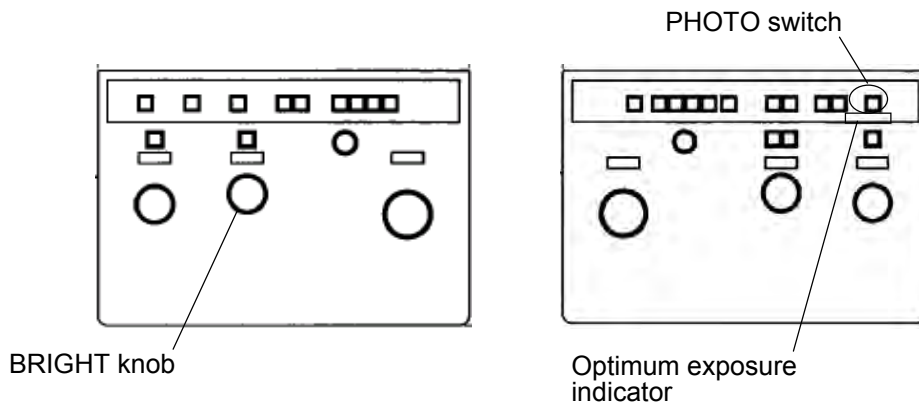

Fig. 3-95 Right/Left Operation Panels
- 3) Adjust the brightness on the fluorescent screen with the BRIGHT knob (Fig. 3-95). Carry out image recording at different brightness conditions and find the optimum electron dose (Exposure density). Once you determine the optimum electron dose, input its value in the Optimum density input box using the scroll bar or keyboard. (For Optimum density, input a value in a range of 2.5×10^{-11} to 4.5×10^{-11} C/cm² as a standard.)
- 5) The optimum exposure condition is always arranged when the green lamp of the optimum exposure indicator (Fig. 3-95) is lit on the right operation panel once the optimum exposure dose has been set in the above procedure.